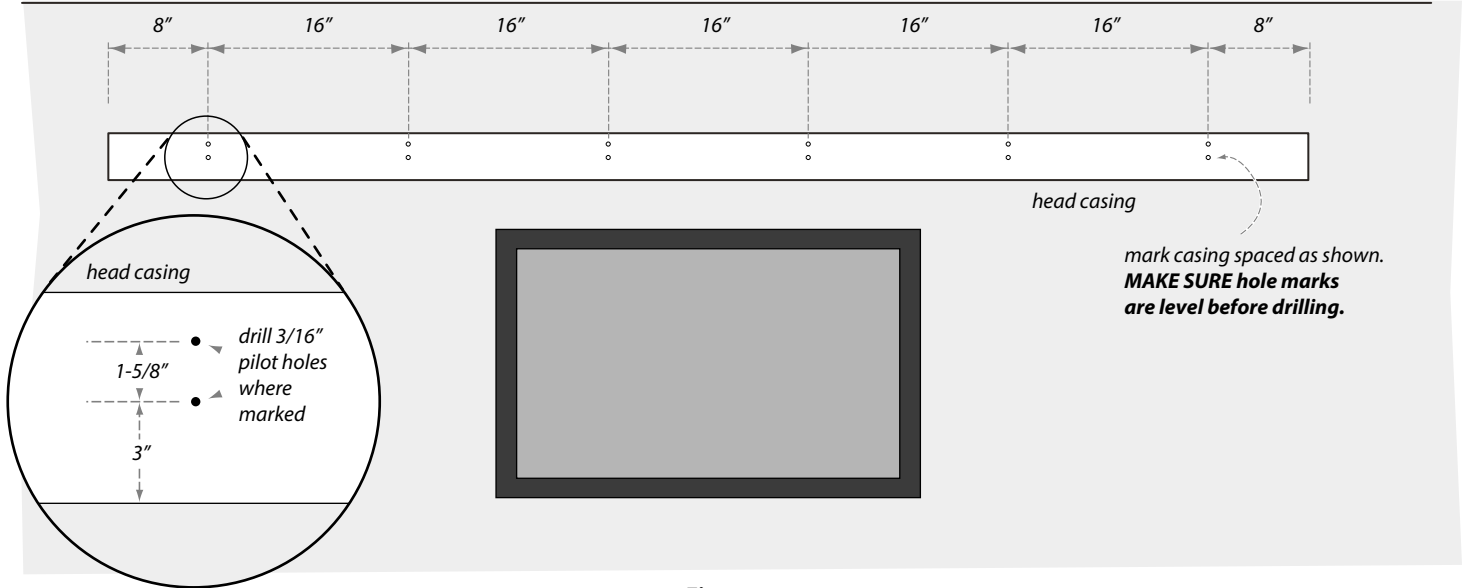

Figure 2
4. Measure 3" and 4-5/8" from bottom of casing and mark casing spaced as shown (figure 2). Drill 3/16" pilot holes where marked. **MAKE SURE hole marks are level before drilling.**